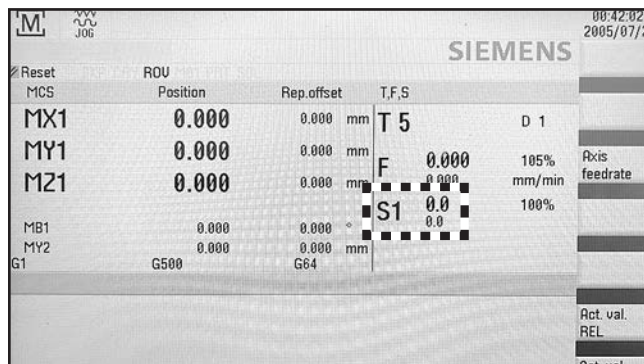

Figure 92. PPU application area displaying S1 spindle speed.
Note: Spindle override switch increments shown in **Figure 91** are percentages, and the S1 RPM value shown in **Figure 92** is the measured speed of the spindle.
- Turn spindle override switch through full speed range. Verify S1 RPM value shown in PPU application area varies with spindle override switch setting (see **Figure 92**).